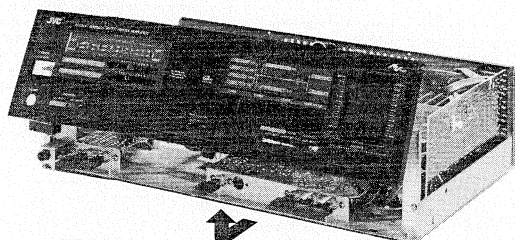

Fig. 5
3. As shown in Fig. 5, pull out the front panel forward and raise it.